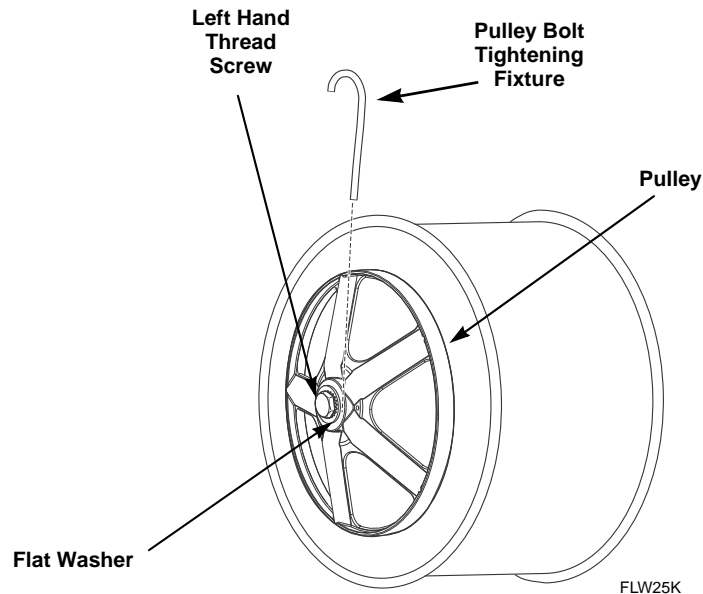

Figure 44
- Install pulley bolt tightening fixture between the flat washer and the pulley. Refer to Figure 44.
- f. Install pulley bolt tightening fixture between the flat washer and the pulley. Refer to *Figure 44*.